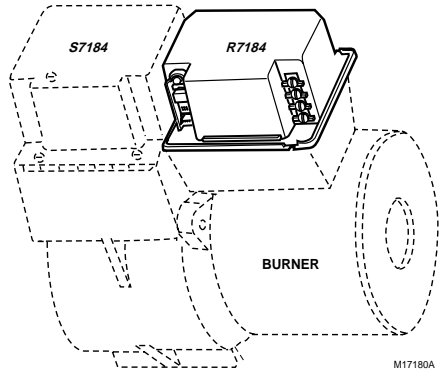

Fig. 1. Mounting R7184 on junction box.
1. Mount on a 4 in. by 4 in. junction box, directly on the main burner or inside the appliance cabinet. In replacement applications, mount in the same location as the old control. See Fig. 1. Make sure the operating temperatures are within the ambient temperature range (see Specifications section).
3. Strip leads 3/8 in. (10 mm) and insert under terminal screw. See Fig. 1.